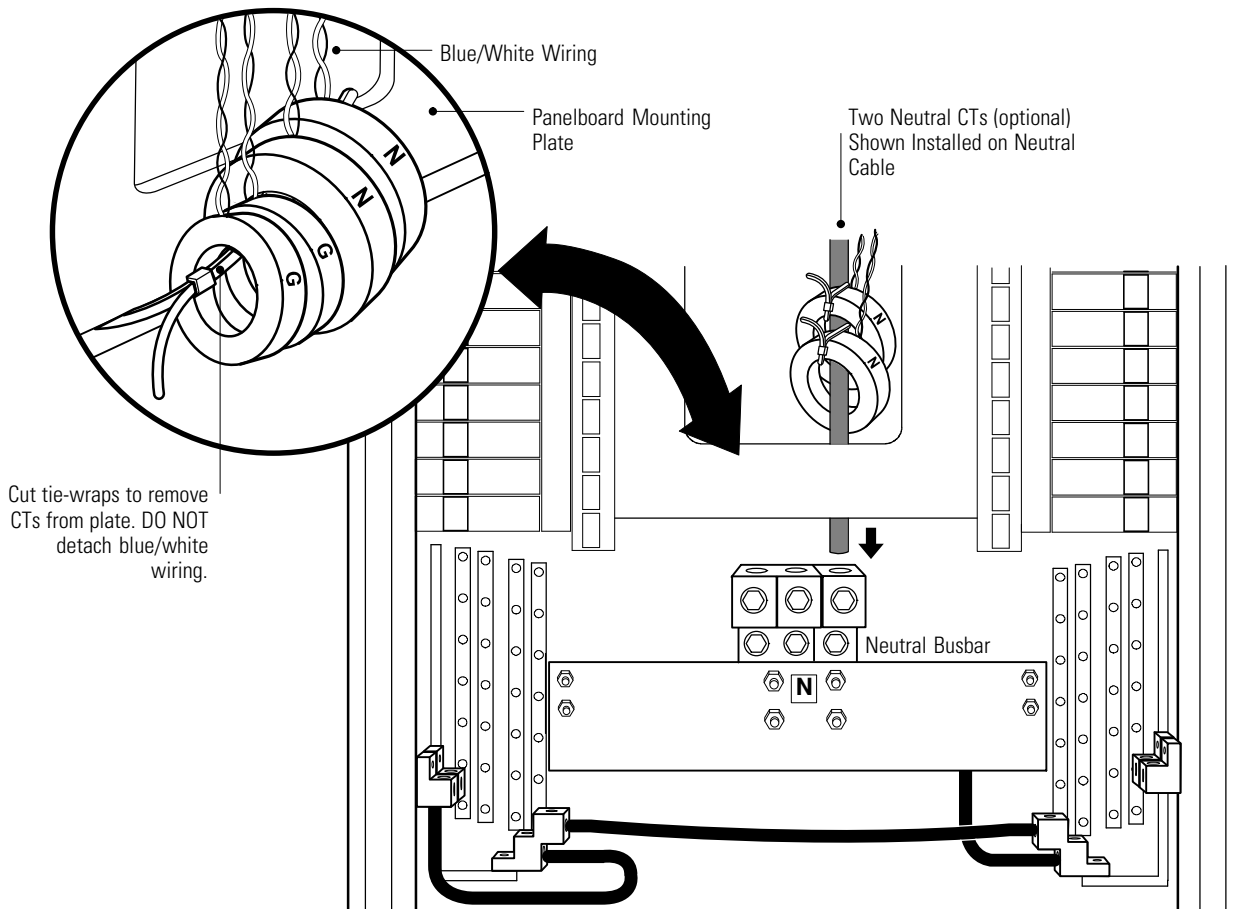

Figure 11. Installing the Neutral (Single 800A Main Input Lug, Single 400A Main Input Breaker, and Single 600A Main Input Breaker)
7. Single 800A Main Input Lug, Single 400A Main Input Breaker, and Single 600A Main Input Breaker configurations. Install the neutral connection (see Figure 11, and Table 2 and Table 3 on page 19):
NOTE Figure 11 shows top entry wiring, one panelboard, optional neutral CTs for measured neutral current, and front access installation.